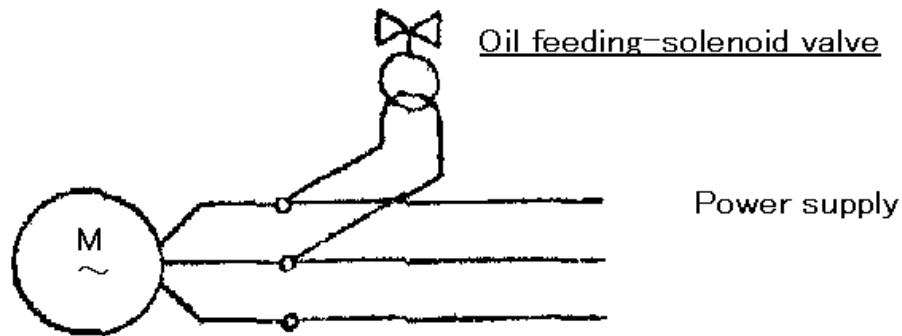

Fig. 1. Standard electrical connection
- 3) Connect "oil feeding-solenoid valve" to the pump line to interlock with the pump. (Refer to Fig. 1)